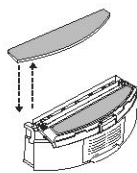
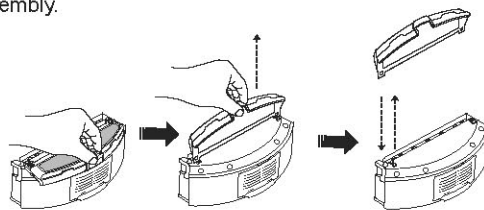

Figure 8
Figure 9
6. Reverse the dustbin, tear out the mop, release the trailing bar and then unplug the right and left fasteners on the bottom of the dustbin (Refer to Figure 8 and Figure 9). All parts should be assembled as before disassembly.